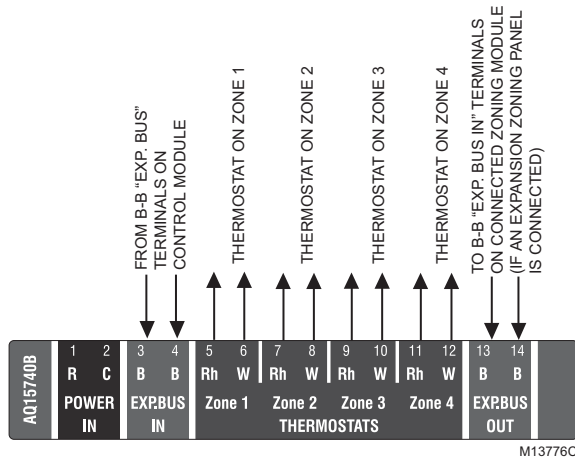

Fig. 9. Connecting AQ1000 thermostats.
- Using low voltage thermostat wire, connect one thermostat from each zone to the corresponding THERMOSTATS Zone X inputs on top of the Zoning Module (see Fig. 9).